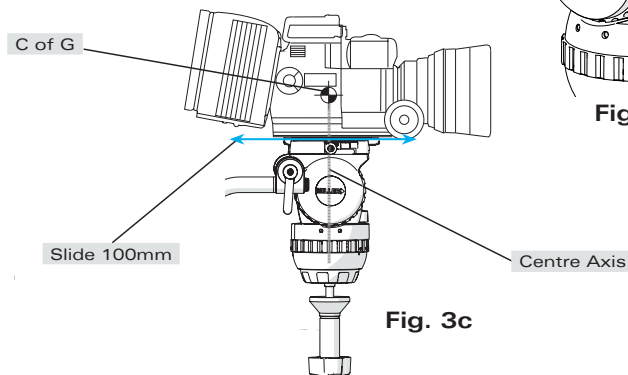

Fig. 3c
- 2.4 Untighten TILT LOCK, slide the VERSA CAMERA PLATE such that the camera's C of G is directly above the centre axis of the Fluid Head, camera should be balanced (if not slide camera backward or forward). Once balanced tighten the SLIDE LOCK LEVER (anti-clockwise)³ and tighten TILT LOCK. (Fig. 3c).